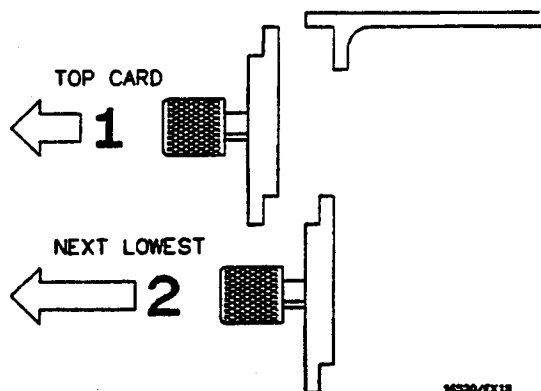

Figure 6-14. Endplate Overlap
- Starting from the top, begin pulling all filler panel(s) and card(s) out half way. See figure 6-14.